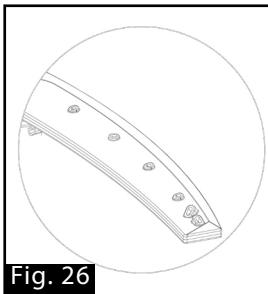

Fig. 26
7. Check if the spray arm is blocked in any way. If so, use a thin wire to pull the blockage out or flush the hole with water (Fig. 26).